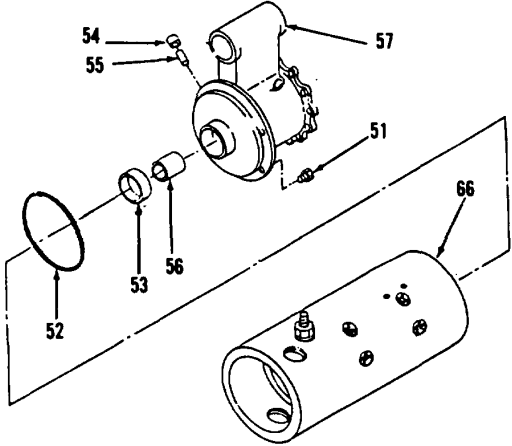

Figure 4-46.
- 31. Remove five bolts (51, Figure 4-46).
- 32. Separate housing (57) from housing (66).
- 33. Remove and discard preformed packing (52) and seal (53).
- 34. Drill hole in cup (54) and pry out of housing (57). Discard cup (54).
- 35. Remove wick (55).